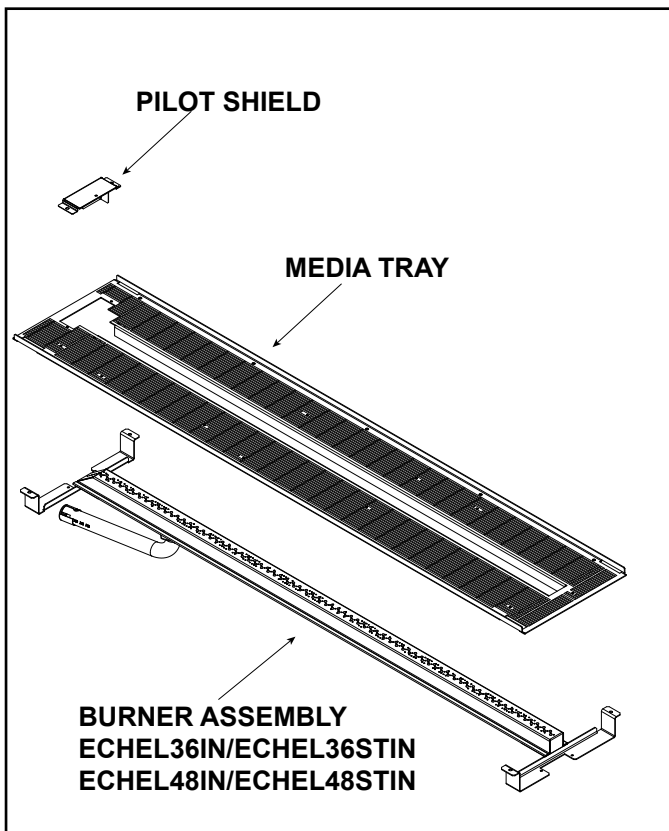

Figure 9.3. Media Tray with Burner and Pilot Shield (ECHEL36IN/ECHEL36STIN/ECHEL46IN/ECHEL48STIN)
7. Remove the media tray. It is attached to the interior firebox bottom with ten screws. See Figure 9.3.
9. Remove the four screws securing the burner to the firebox sides and disengage burner from orifice. Remove burner. See Figure 9.3.